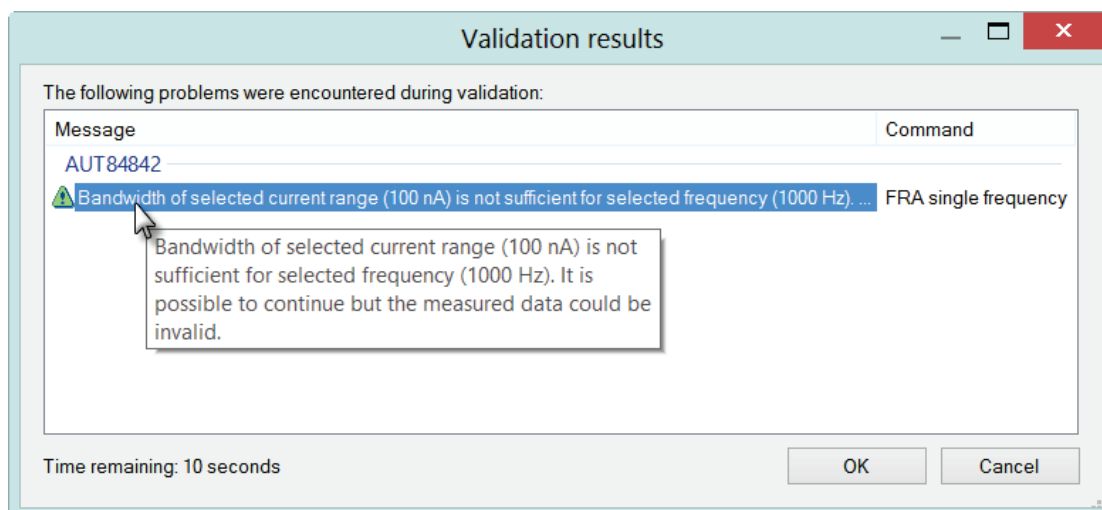

Figure 1.111 – Ignore the warning shown during the validation of the procedure
3. Start the measurement and wait until it has been finished. Ignore the warning displayed during the procedure validation (see Figure 1.111).